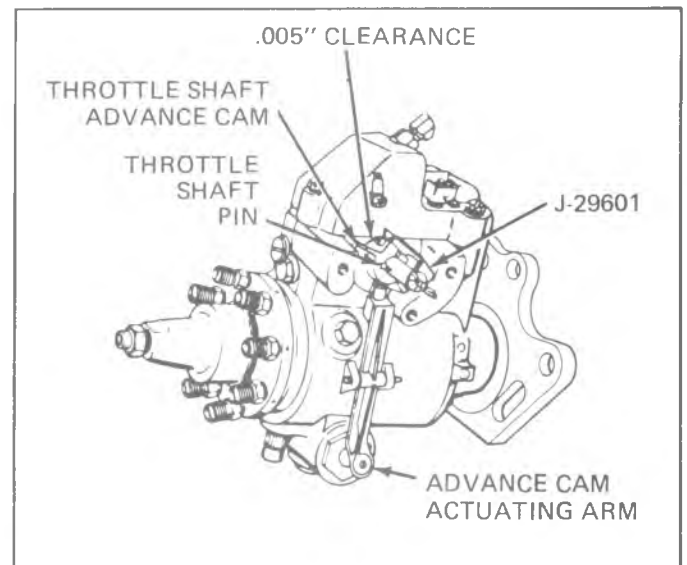

Fig. 6C6-18--Injection Pump With Tool J29601 Installed
19. Install a new mylar washer, the throttle shaft advance cam, (do not tighten cam screw at this time), and a new throttle shaft drive pin (Fig. 6C6-17).